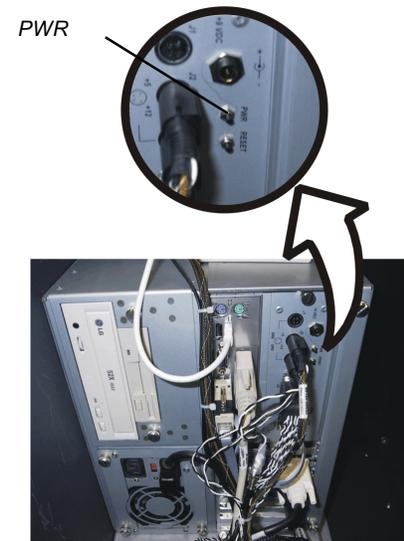

Fig. 10-1. Location of the Power ON/OFF Buttons.
2. Locate the **PWR** button on the control chassis distribution panel, as shown in Figure 10-1. Press and briefly hold in the button to initiate the restart.